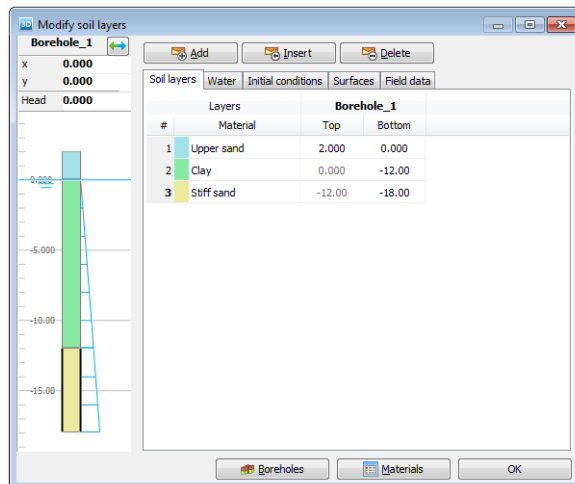

Figure 5.2 Soil layer distribution
- Assign the material data sets to the corresponding soil layers (Figure 5.2) and close the *Modify soil layers* window. The concrete data set will be assigned later.